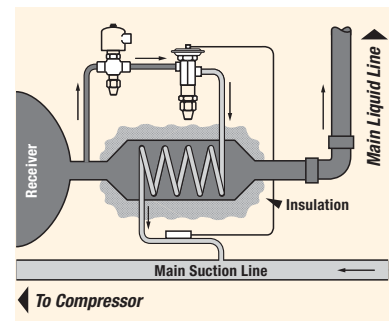

Figure 1
- Special heat exchanger which uses a portion of the refrigerant to cool the main body of liquid. See Figure 1.